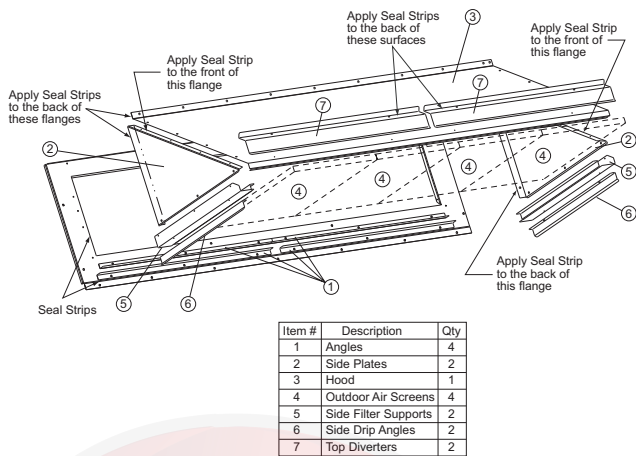

Fig. 15 - Hood Part Identification and Seal Strip Application Areas
See Fig. 15 for identification of the various parts of the hood assembly.
3. Apply seal strip to mating flanges on the side plates of the hood (see Fig. 15).
5. Apply seal strip to mating flange of the hood (see Fig. 15).